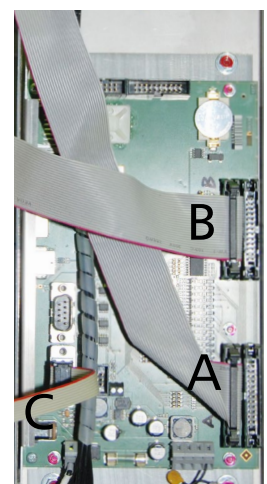

fig. 3.1-35
**Step 26:** Now you can connect the plugs of the flat ribbon cables "A" and "B" to the control panel in the right stainless steel frame cover (**fig. 3.1-35**).